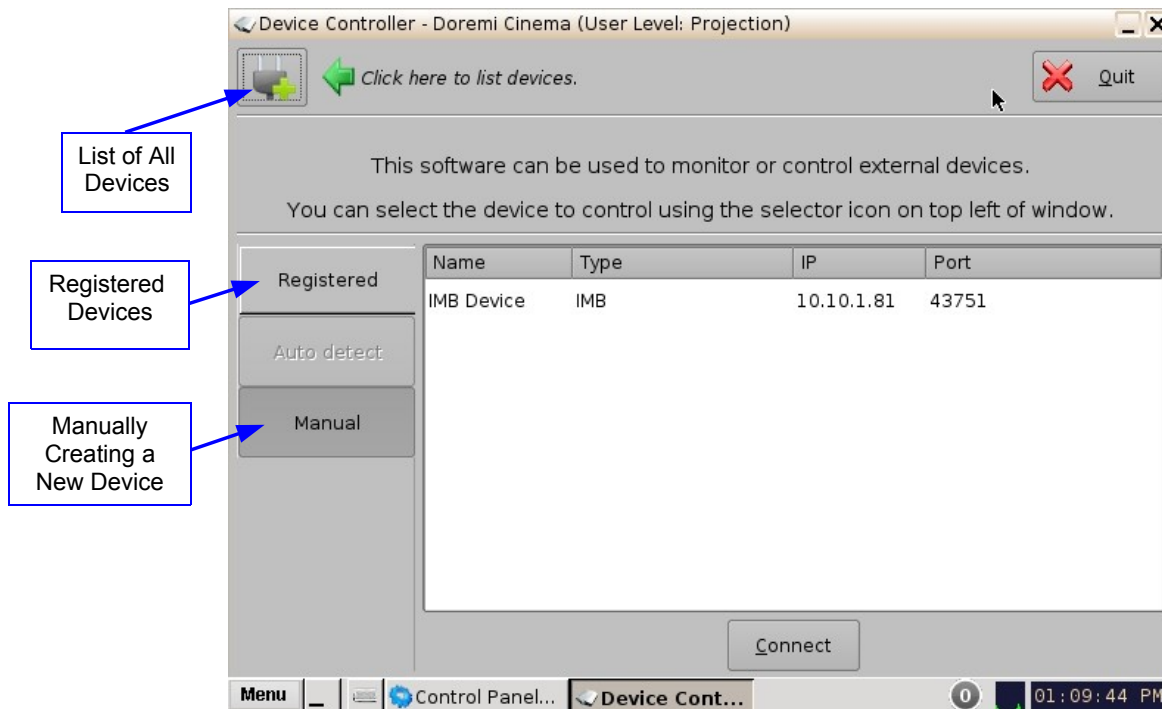

Figure 88: Device Controller GUI - Registered Tab
- Click on the List of all Devices window and select the device to control (Figure 88).